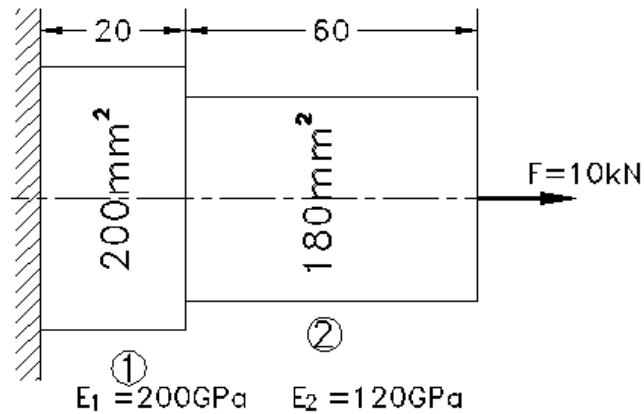

Figure 1
- (c) A stepped bar is made of two materials joined together as shown in figure 1. The bar is subjected to an axial pull of 10 kN. Determine displacements and stresses of each of the section, using a 1D spar element. 07